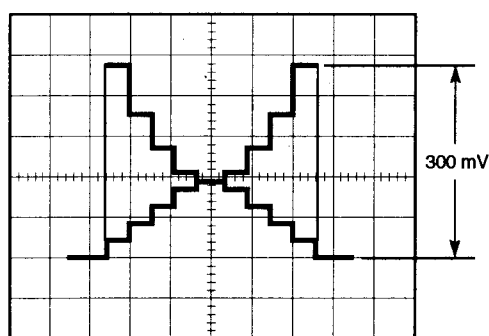

Fig. 5-1-43
- Set the Lens Iris so that the Video signal level becomes 300 mV as shown in Fig. 5-1-43.